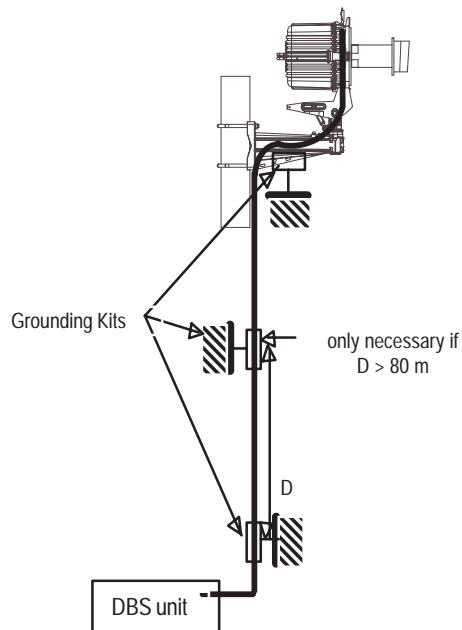

Figure 21 – Grounding the RBS/DBS connection in option
- The grounding diagram for these kits is illustrated in Figure 21.